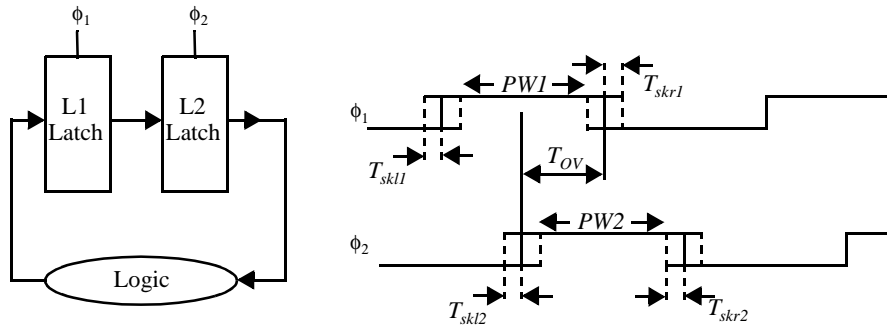

Figure 0.9 Timing constraints
6. For the L1-L2 latch based system from Figure 0.9, with two overlapping clocks derive all the necessary constraints for proper operation of the logic. The latches have setup times T_{SU1} and T_{SU2} , data-to-output delays T_{D-Q1} and T_{D-Q2} , clock-to-output delays T_{CLK-Q1} and T_{CLK-Q2} , and hold times T_{H1} and T_{H2} , respectively. Relevant clock parameters are also illustrated in Figure 0.9. The constraints should relate the logic delays, clock period, overlap time T_{OV} , pulse widths $PW1$ and $PW2$ to latch parameters and skews.